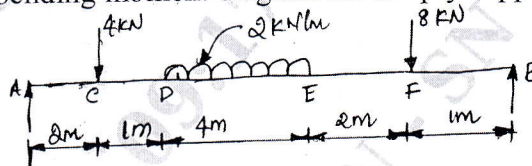

Fig.Q.6(b)
- b. Determine the shearforce, bending moment at points shown in Fig.Q.6(b). Also draw the shear force diagram and bending moment diagram for simply supported beam. (12 Marks)